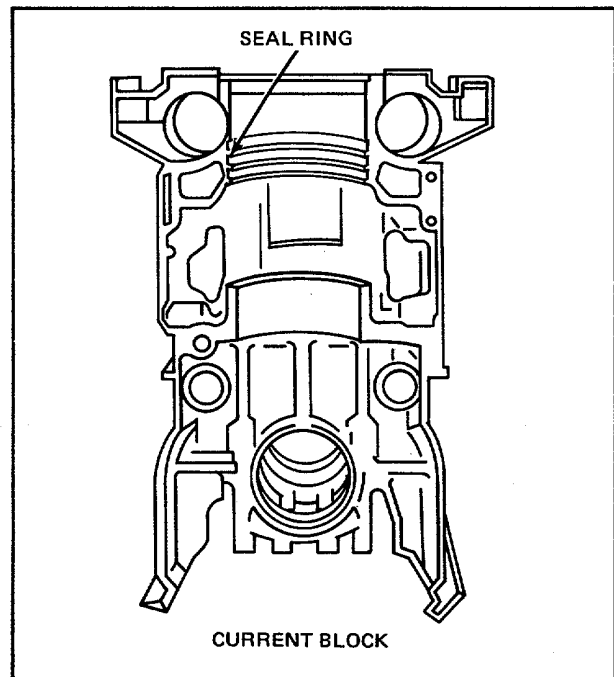
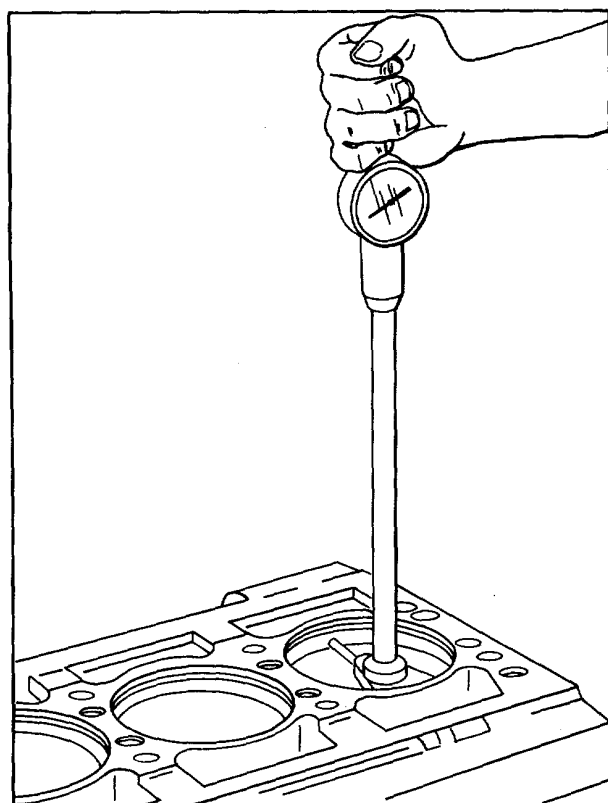

Figure 8. Location of Block Bore Seal Ring Groove
Figure 9. Checking Cylinder Block Bore with Tool J 5347-01
- a. Make sure the seal ring grooves (Fig. 8) are thoroughly clean. Then inspect the grooves and lands for evidence of pitting and erosion. Two grooves are provided above the air inlet ports of each cylinder bore in the current block. The single groove formerly below the air inlet ports has been eliminated. However, a cylinder liner seal ring is required in the upper groove only. The lower groove (on the current block) is provided for the seal ring if inspection reveals extensive pitting or erosion along the upper land or inner surface of the upper groove. If both grooves are eroded to the extent that sealing is affected, then the block must be replaced.
- b. Measure the entire bore of each cylinder with cylinder bore gage J 5347-01 (Fig. 9) which has a dial indicator calibrated in 0.0001 inch increments. Use dial bore gage setting tool Figure 8. Location of Block Bore Seal Ring Groove